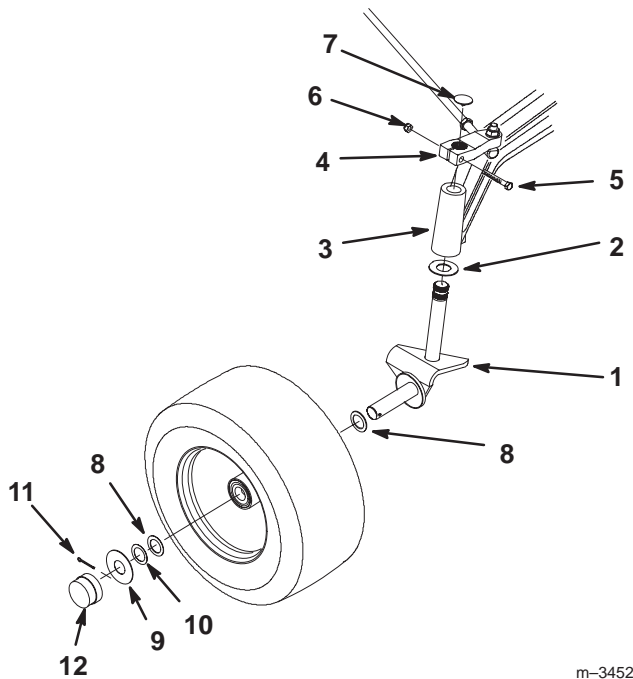

Figure 4
4. Install a 1.56 in. O.D. x 0.06 in. thick unplated thrust washer onto the splined shaft of the R.H. wheel spindle (Fig. 4).
5. Install the splined end of the R.H. spindle through the R.H. end of the front axle and into the steering arm (Fig. 4).
6. Secure the spindle shaft to the steering arm with a 5/16–18 x 2.25 in. bolt and 5/16 in. nut (Fig. 4).
8. Insert a 1.50 in. O.D x 0.05 in. thick plated wheel washer onto the R.H. spindle (Fig. 4).
9. Install a front wheel onto the R.H. spindle with the valve stem facing inward (Fig. 4).
10. Insert another 1.50 in. O.D x 0.05 in. thick plated wheel washer onto the R.H. spindle (Fig. 4).
12. Insert a 1.50 in. long cotter pin into the hole in the spindle (Fig. 4).
16. Install a hubcap onto the hubcap washer until it snaps in place (Fig. 4).
19. Insert a spindle cap into the steering arm (Fig. 4).